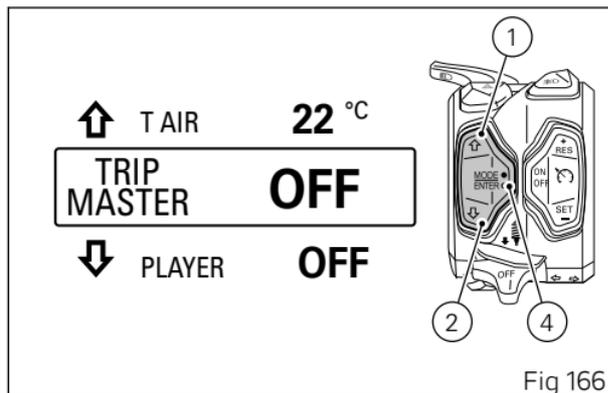

Fig 166
To activate the Trip Master function, use buttons (1) and (2) to view "TRIP MASTER OFF" within the Menu and press button (4) (Fig 166).